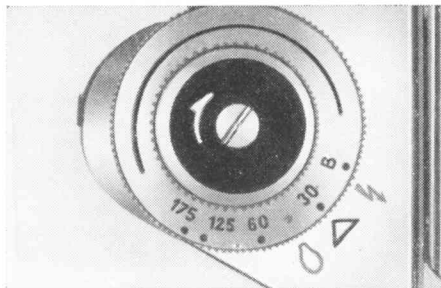

Fig. 31
When working with the most commonly-used, quick-burning miniature flash bulbs, the shutter-speed setting ring (14) should be turned so that the red dot is set to the flash bulb symbol (⦿) (see Fig. 31); the shutter will then be set to  $\frac{1}{30}$  sec.